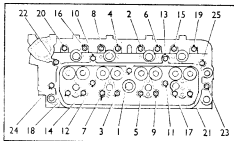

Fig.7 - Cylinder head nut slacking and tightening sequence
4. Slacken the cylinder head nuts, a turn at a time, in the sequence shown in Fig. 7 until the load has been released. It will be found convenient to use Cylinder head nut spanner 18G545 to remove the two nuts which also serve as rocker cover studs.